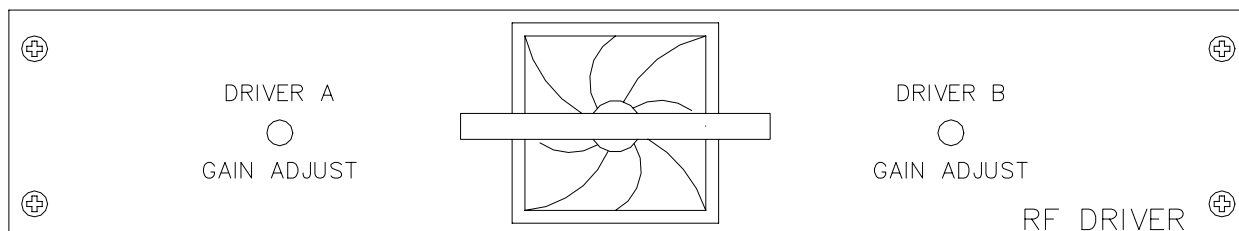

Figure 6-12 Dual RF Driver Front Panel
8. Use a thin, long-shanked screw driver to turn the Driver A Gain Adjustment on the front panel of the RF Driver (see Figure 6-12) and adjust the Power Meter reading to the value specified in Table 6-1.